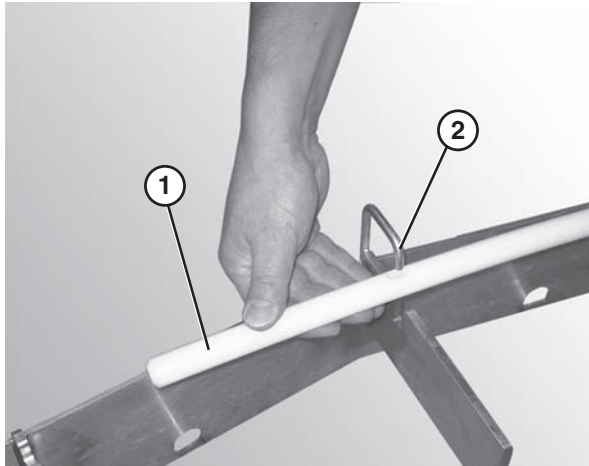

Figure 29
2. Attach the hold down wear strip (**Figure 29, item 1**) to the frame hooks (**Figure 29, item 2**) on the outside of the frame.